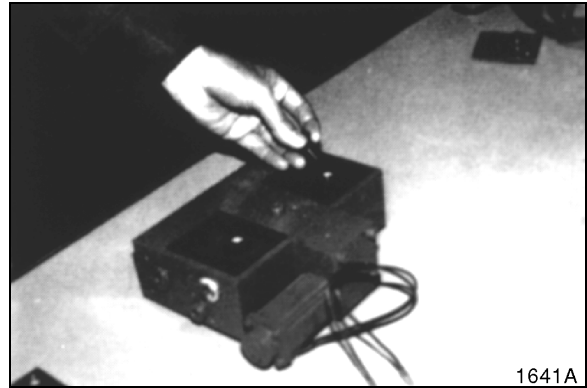

Figure 48
3. Remove piston. See Figure 48.